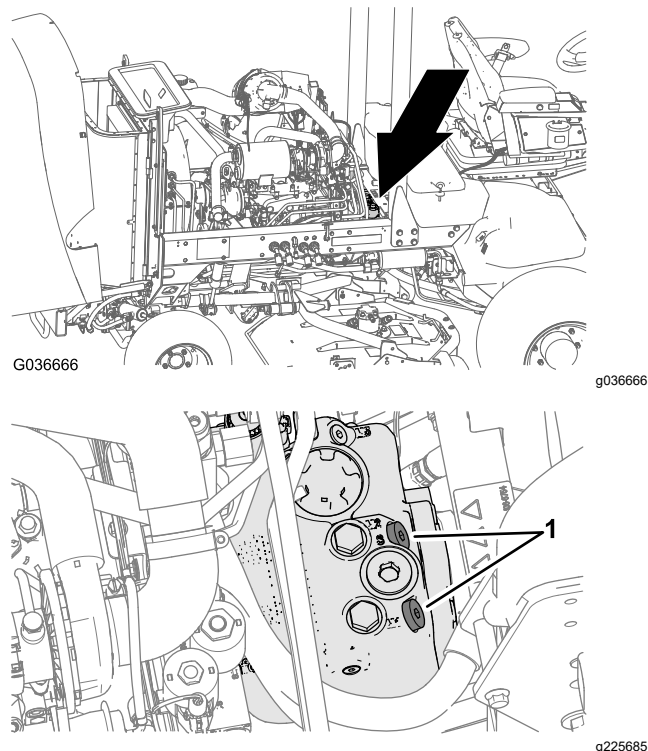

Figure 43
1. Open the hood and locate the relief valves (Figure 43) on the top of pump, behind the battery/storage boxes.